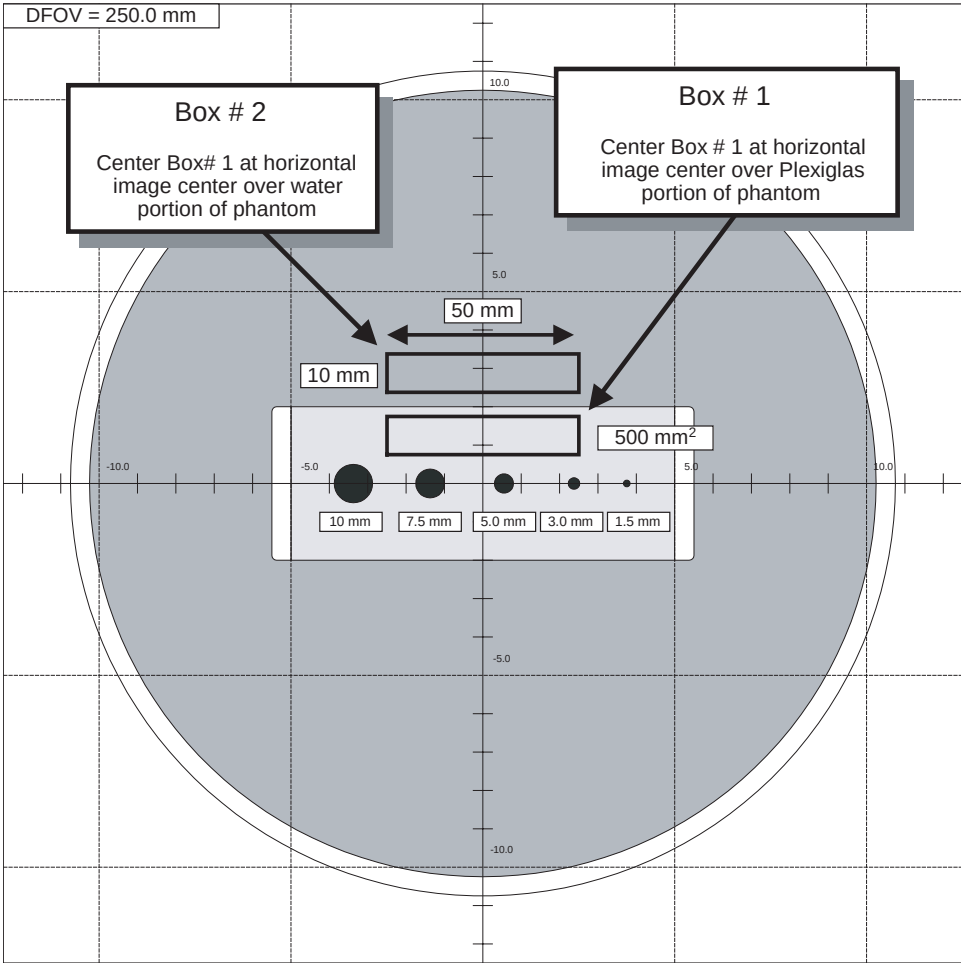

Figure 11-8 20cm QA#2 Phantom Low Contrast Detectability - Building and Placing Reference ROI Boxes
If required, magnify the image to adjust to proper dimensions. See Figure 11-8 for additional ROI size and placement information.
If required, magnify the image to adjust to proper dimensions. See Figure 11-8 for additional ROI placement information.
- a.) Adjust the Window setting of the image to 20 by simultaneously holding the center mouse button down while dragging the cursor to the left. Adjust level for a viewable image as shown in Figure 11-8.
- b.) Position the reference ROI Box built in step 2 on the Plexiglas portion of the QA#2 phantom image without touching the water portion or the hole pattern. See Figure 11-8.
- e.) Reposition Box # 2 over the water portion of the QA#1 phantom image and directly above Box # 1 (Box # 2 position in Figure 11-8).
- a.) While viewing the 1st, 3rd, 5th, and 7th images, indicate in Table 11-11 the number of holes that can be visually distinguished. See Figure 11-8.